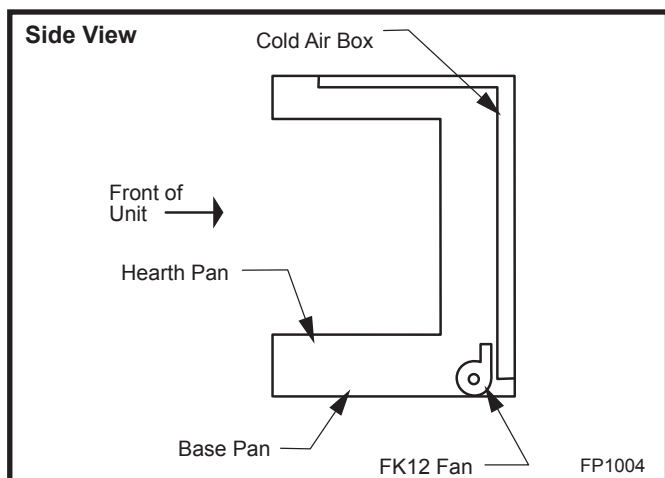

Fig. 89 FK12 Fan Kit placement.
2. Install FK12 fan in back of unit between hearth supports. (Fig. 89)